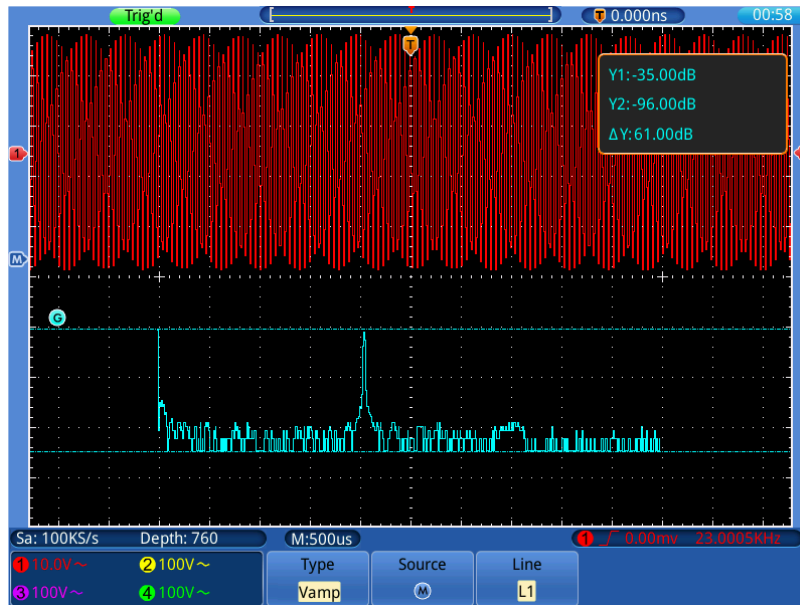

Figure 5-12 Wave of Vamp cursor measurement
4. Select **Line** in the bottom menu; select **L1** in the right menu. The  icon will appear beside the dotted line of L1, represents you can turn the **G** knob to adjust the position of L1. Select **L2** to adjust the position of L2. Select **L1&L2** to adjust the two cursors together. The cursor measure window at the top right shows the present position of two cursors and the absolute value of amplitude difference (see *Figure 5-12*).